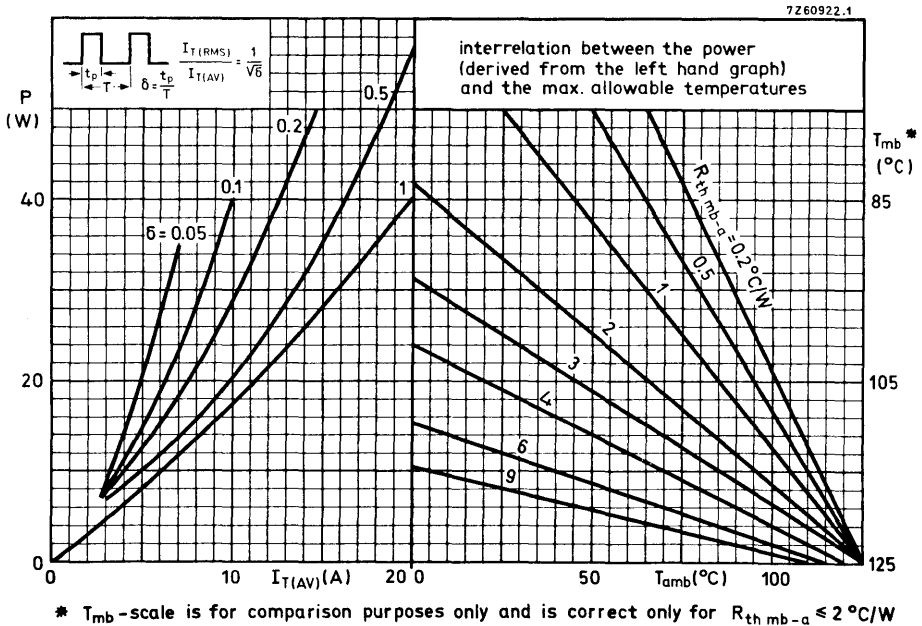
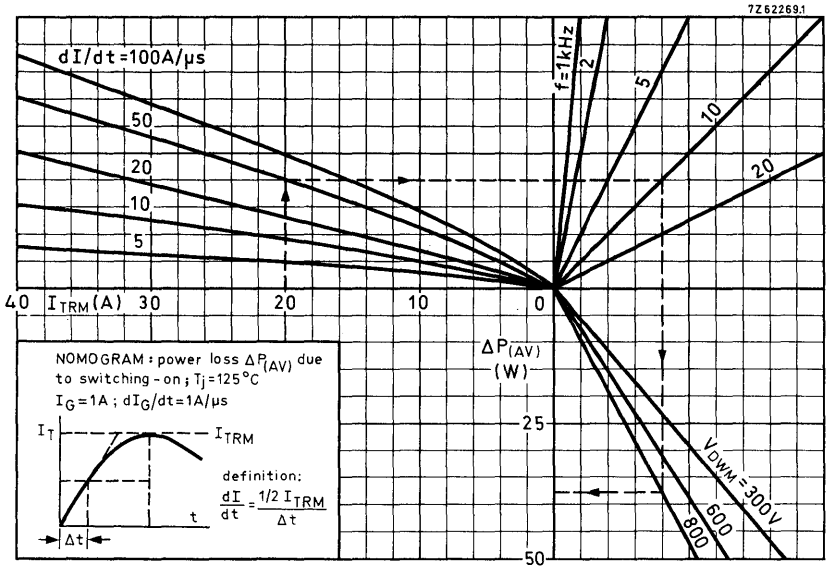

Fig. 5.
Fig. 13.
- a. The curves in Figs 13 and 14 show the additional average power losses due to turning on and turning off the thyristor in square pulse operation. This power should be added to that derived from the curves in Fig. 5.